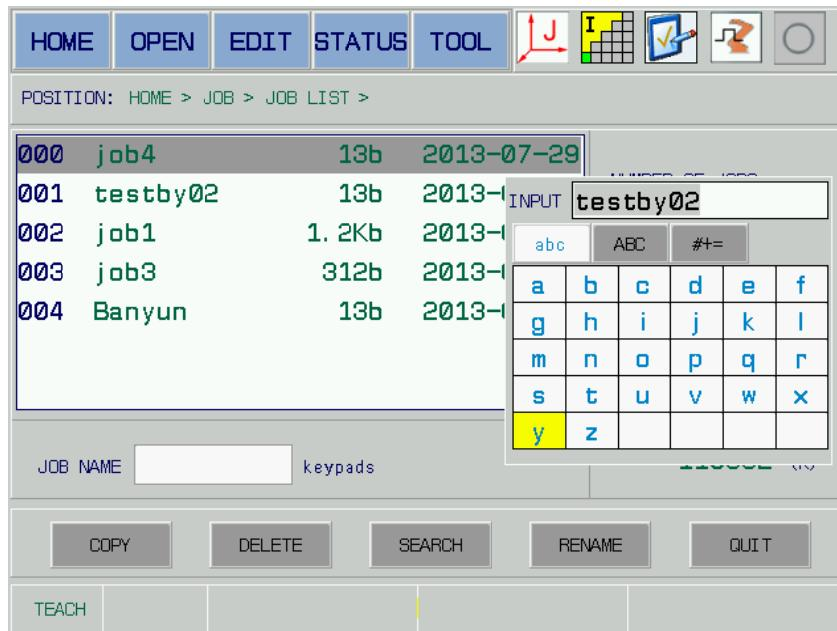

Fig. 5-15
- In the {Job list} page, shift the cursor to the input frame by [TAB], then enter the soft keyboard input page matching with the [SELECT], input the program name “testby02”; refer to the Fig. 5-15.